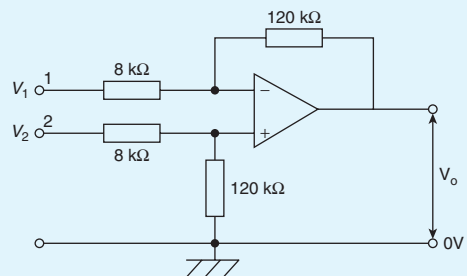

Figure 19.21
- In the differential amplifier shown in Fig. 19.21, determine the output voltage, V_o , if: (a) $V_1 = 4\text{ mV}$ and $V_2 = 0$ (b) $V_1 = 0$ and $V_2 = 6\text{ mV}$ (c) $V_1 = 40\text{ mV}$ and $V_2 = 30\text{ mV}$ (d) $V_1 = 25\text{ mV}$ and $V_2 = 40\text{ mV}$